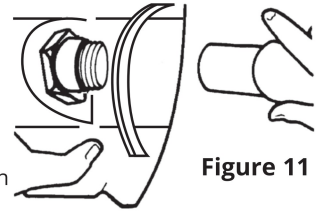

Figure 11
1. Connect breathing tube assembly to helmet by screwing gray hose connector to fitting located on the rear of the helmet. Turn clockwise to tighten (Figure 11).